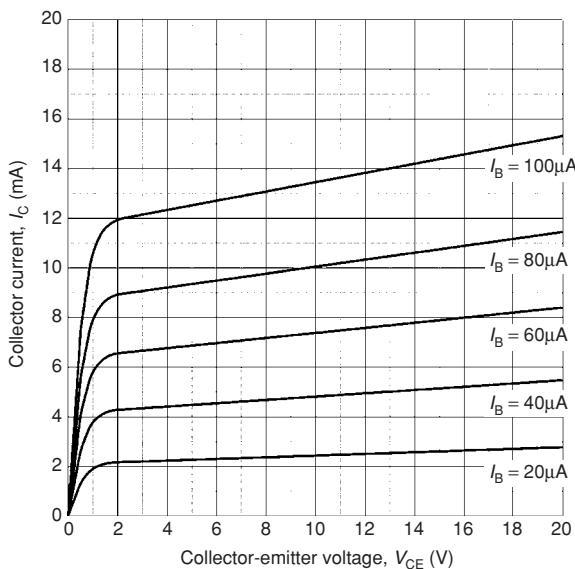

Figure 12.10
Figure 12.10 shows a typical set of **output (collector) characteristics** ( $I_C$  plotted against  $V_{CE}$ ) for an n-p-n bipolar transistor. Each curve corresponds to a different value of base current. Note the ‘knee’ in the characteristic below  $V_{CE} = 2$  V. Also note that the curves are quite flat. For this reason (i.e. since the collector current does not change very much as the collector-emitter voltage changes) we often refer to this as a **constant current characteristic**.
For the output characteristics, VR1 is varied so that  $I_B$  is, say,  $20 \mu\text{A}$ . Then VR2 is set at various values and corresponding values of  $V_{CE}$  and  $I_C$  are noted. The graph of  $V_{CE}/I_C$  is then plotted for  $I_B = 20 \mu\text{A}$ . This is repeated for, say,  $I_B = 40 \mu\text{A}$ ,  $I_B = 60 \mu\text{A}$ , and so on. Plotting the values gives the typical output characteristics of Fig. 12.10.
**Output resistance** (from the output characteristic, Fig. 12.10)